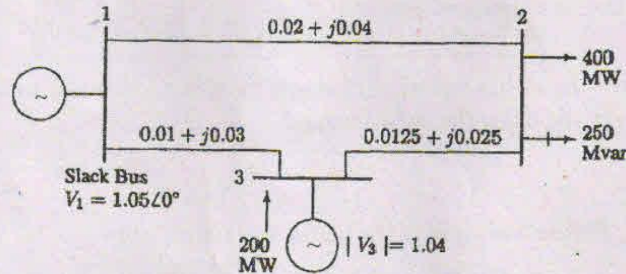

Fig. 12(b)
- (b) Evaluate the Jacobian elements for the 3-Bus system shown in Fig. 12(b). All the impedances in this Fig. 12(b) are mentioned in per unit.